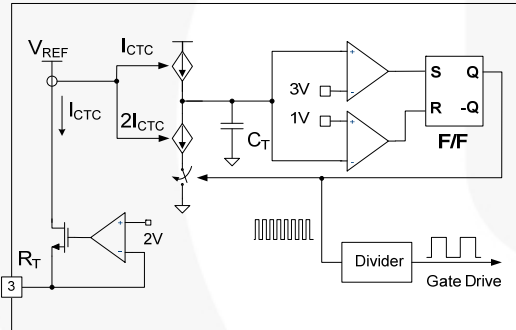

Figure 16. Current-Controlled Oscillator
2. Internal Oscillator: FSFR-XS series employs a current-controlled oscillator, as shown in Figure 16. Internally, the voltage of R_T pin is regulated at 2 V and the charging / discharging current for the oscillator capacitor, C_T , is obtained by copying the current flowing out of the R_T pin (I_{CTC}) using a current mirror. Therefore, the switching frequency increases as I_{CTC} increases.